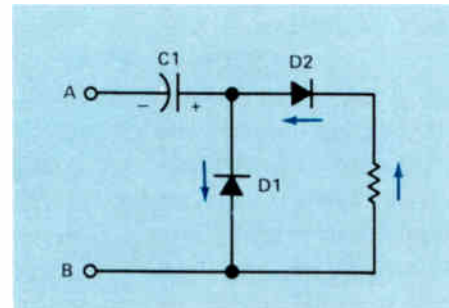
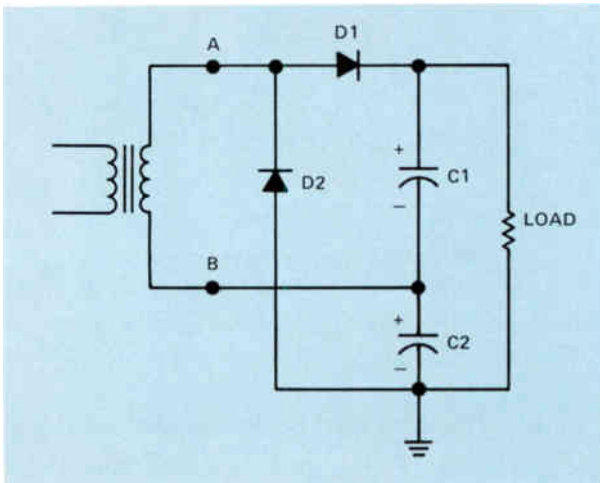

Figure 12. A half-wave voltage-doubler circuit.
Figure 13. A full-wave voltage-doubler circuit.
Figure 12 shows a half-wave doubler circuit. Let's see how it works. During the first half-cycle, when terminal A is negative and terminal B is positive, electrons will flow from terminal A into the side of C1 marked with
The circuit shown in Fig.12 is called a half-wave voltage doubler because current flows through the load only when terminal A is positive and terminal B is negative. In other words, we have a current flow through the load only during one half-cycle. The circuit shown in Fig.13 is a full-wave voltage doubler. Here we have a current through the load during both half-cycles.
In the circuit shown in Fig.13, when terminal B is negative and terminal A is
During the half-cycle when diode D1 is conducting, diode D2 cannot conduct because the voltage applied to its cathode will be positive. During the other half-cycle when D2 is conducting, D1 cannot conduct because the voltage applied to its anode will be negative. As in the case of a half-wave voltage doubler, the full-wave doubler shown in Fig.13 gives us an output voltage across C1 and C2 in series that is equal to twice the peak line input voltage. In the case of an input voltage of 120 volts ac, this would be approximately 340 volts.
- 14 What is the advantage of the full-wave voltage doubler shown in Fig.13 over the half-wave voltage doubler shown in Fig.12?